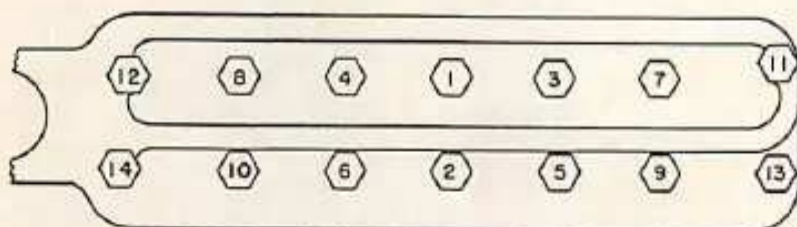

Fig. O55 — Cylinder head tightening sequence for Series 1650 diesel engines only. Tighten all capscrews to a torque of 129-133 Ft.-Lbs.
62. When reinstalling cylinder head, refer to Fig. O56 for location of oil screw on non-diesel models, or to Fig. O57 on Series 1600 diesel models. Tighten cylinder head cap screws in sequence shown in Fig. O56 for all non-diesel engines, in sequence shown in Fig. O57 for Series 1600 diesel engines, or in sequence shown in Fig. O55 for Series 1650 diesel engines.